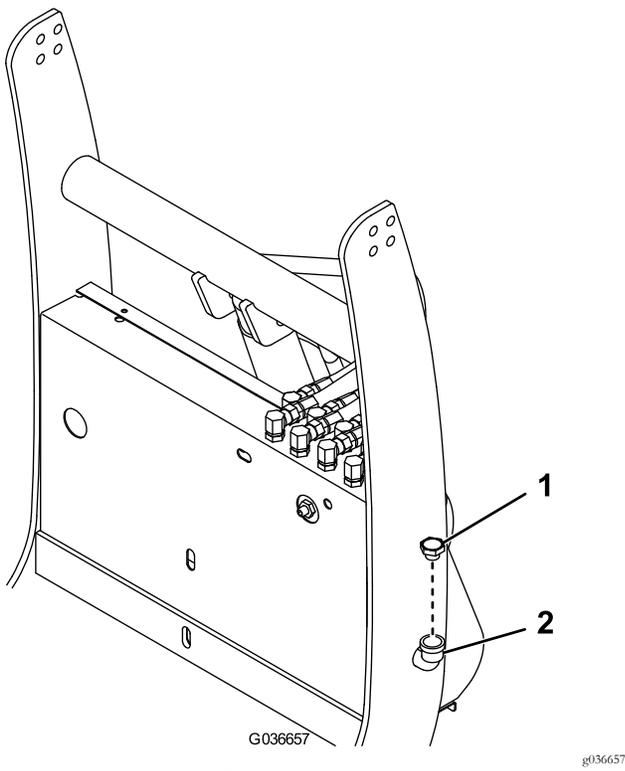

Figure 14
3. Remove the fill cap from the hydraulic reservoir (Figure 14).